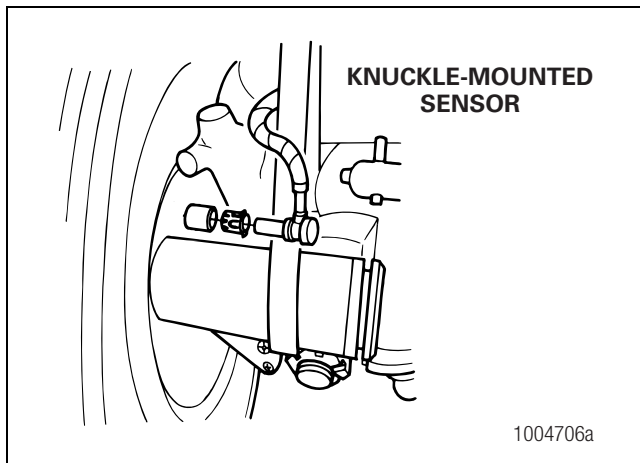

Figure 4.63
4. Remove the sensor from the sensor holder. Twist and pull the sensor to remove it from the sensor bracket. **Do not pull on the cable.** Figure 4.63.